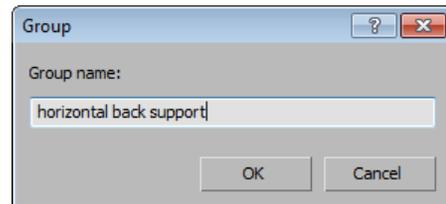

Figure 2-62 The *Group* dialog box
3. In the **Group name** text box, enter **horizontal back support**, as shown in Figure 2-62 and then choose the **OK** button; all horizontal back supports are grouped together.